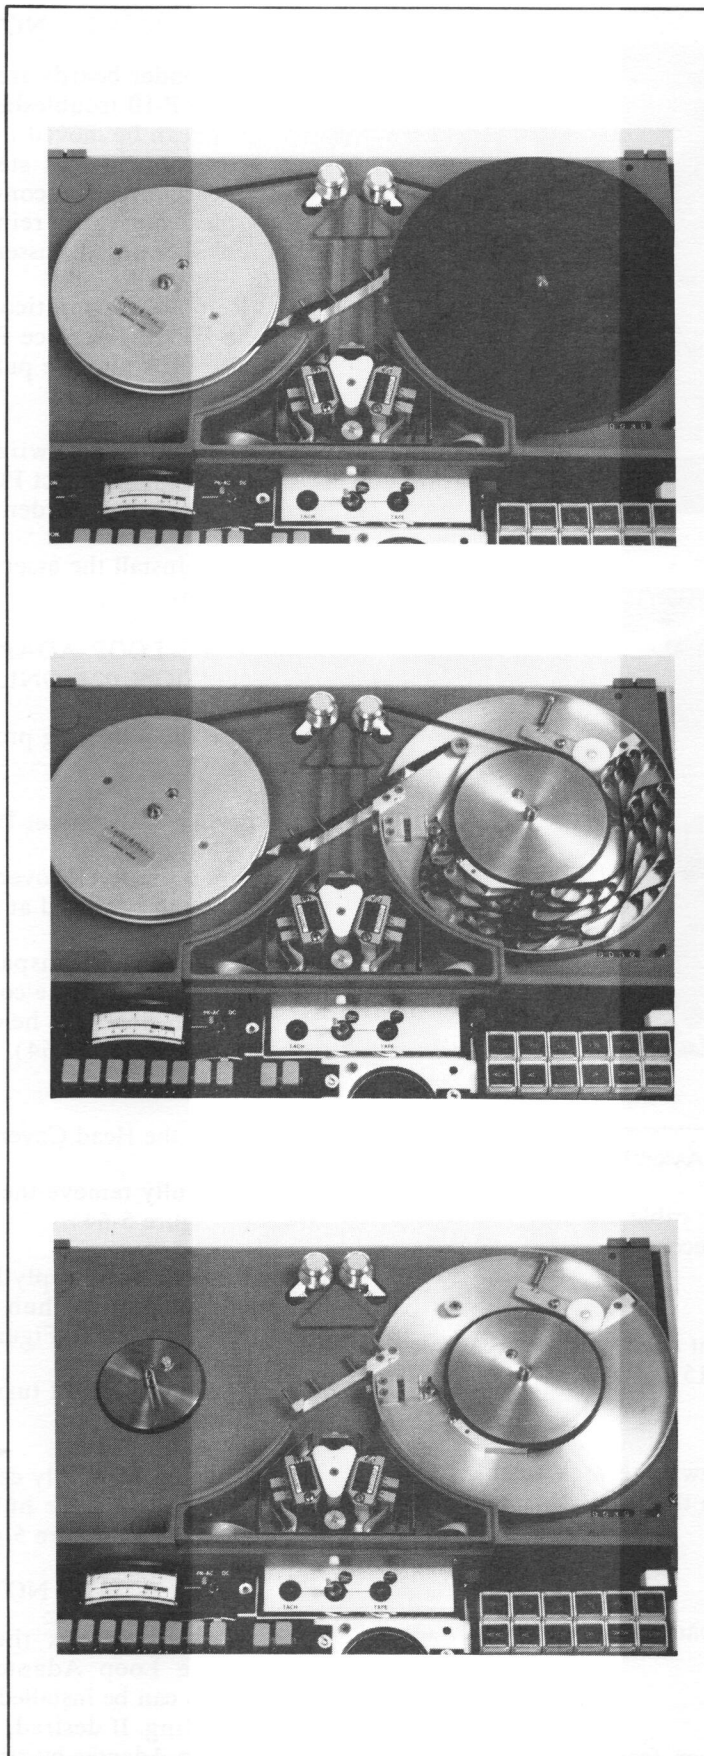

Figure 5-64. Tape Loop Adapter Removal
- c. Remove the transparent cover from over the right Bin Assembly. The cover can be lifted from the right reel hub since it is held in position with a detent (see Detail A, Figure 5-64).
- e. Carefully remove the tape loop as illustrated in Detail B, Figure 5-64).
- f. Remove the Supply Hub. The hub also is held in position by the tape hub detents and can be simply lifted off (see Detail C, Figure 5-64).
- h. The Bin Assembly can now be removed. There are three screws on the hub which retain it as illustrated in Detail C, Figure 5-64.